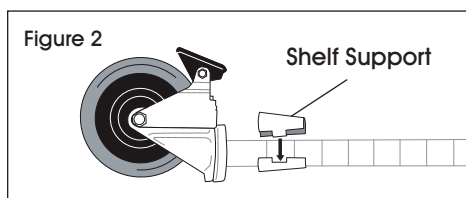

Figure 2
1. Start with the lowest shelf. Snap the interlocking pieces of a shelf support (wide end down) around the post at the lowest groove where shelf is to be located. (See Figure 2)